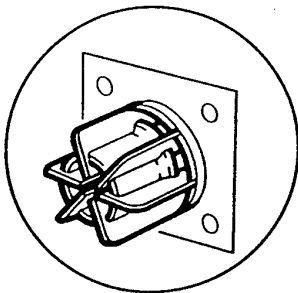

Fig. 53
11. Fit the trim over the flue terminal and mark through the four securing holes. Remove the trim, drill holes 63mm (2 1/2 in) deep to accept suitable wall plugs. Fit the trim over the flue terminal and secure using suitable screws (Fig. 53).